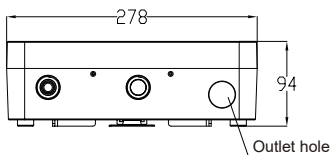

Figure 5
- 4.2. Confirm the position of the outlet of the power cord: confirm the inlet position of the power cord according to the position of the air switch, (refer to Figure 5).